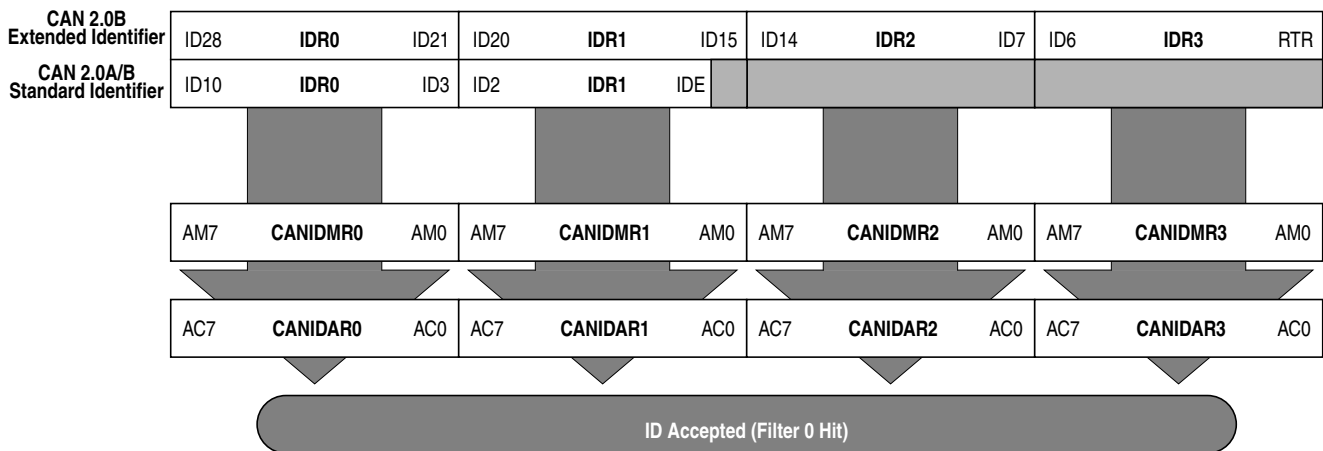

Figure 9-37. 32-bit Maskable Identifier Acceptance Filter
- The 11 bits of the standard identifier plus the RTR and IDE bits of the CAN 2.0A/B messages1. This mode implements two filters for a full length CAN 2.0B compliant extended identifier. Figure 9-37 shows how the first 32-bit filter bank (CANIDAR0–CANIDAR3, CANIDMR0–CANIDMR3) produces a filter 0 hit. Similarly, the second filter bank (CANIDAR4–CANIDAR7, CANIDMR4–CANIDMR7) produces a filter 1 hit.